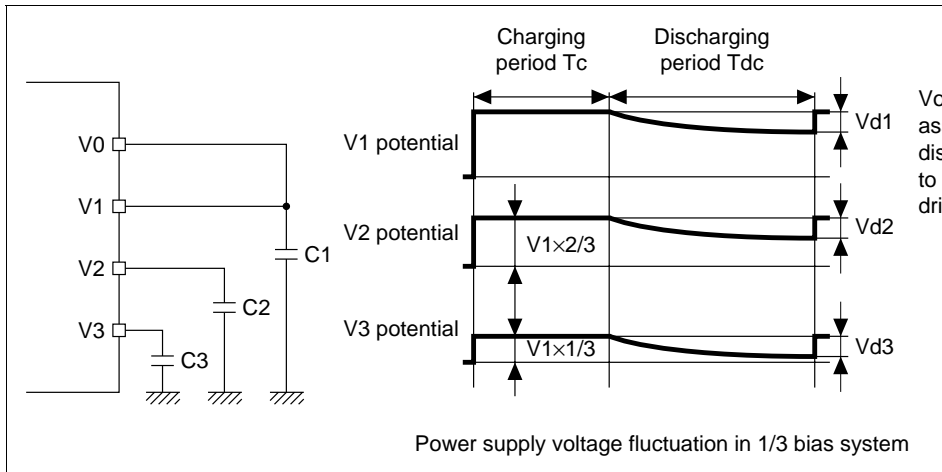

Figure 13.14 Example of Low-Power-Consumption LCD Drive Operation
- a. Capacitors are connected as external circuits to LCD power supply pins V1, V2, and V3, as shown in figure 13.14.
- b. The capacitors connected to V1, V2, and V3 are repeatedly charged and discharged in the cycle shown in figure 13.14, maintaining the potentials.
- d. In this way, the capacitors connected to V1, V2, and V3 are repeatedly charged and discharged in the cycle shown in figure 13.14, maintaining the potentials and driving the LCD panel.